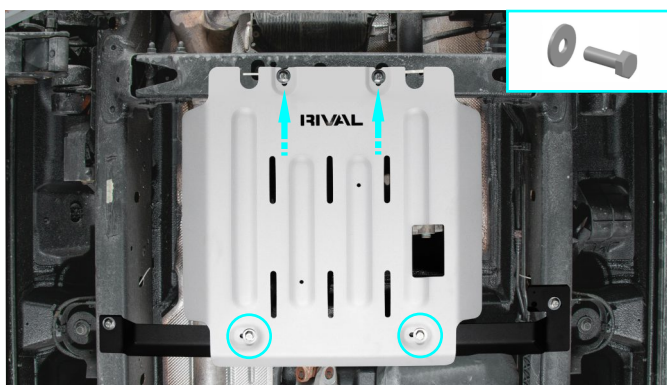

Fig. 5
5. Slide front part of transfer case skid plate (item 1) under previously installed bolts M10x30 from step 4 and secure it using bolts M10x30 with flat washers M10 (items C, D) as shown in fig.5.